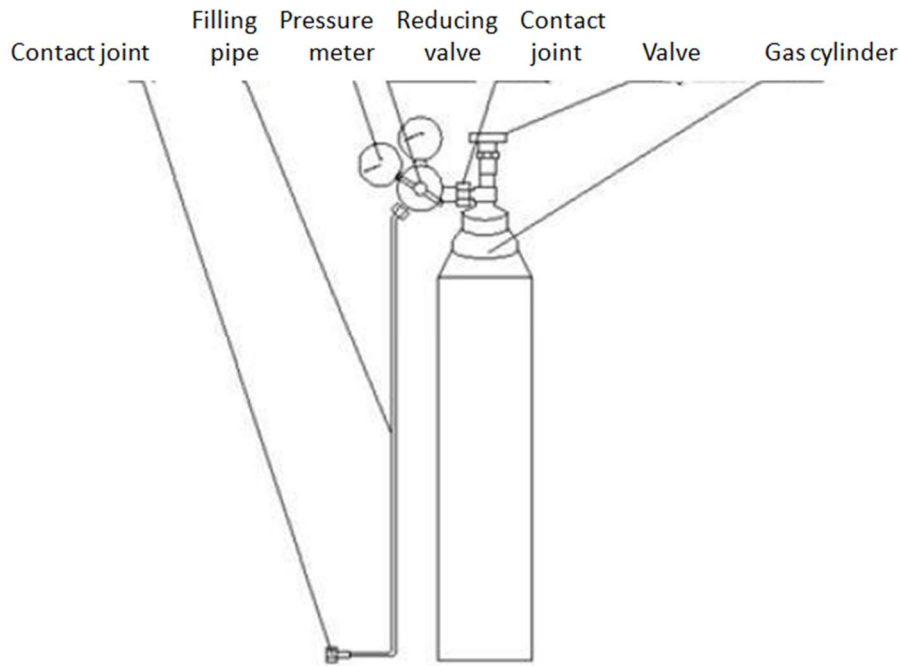

Figure 6 Schematic diagram of filling device
- b) Unscrew the protection cap of the gas cylinder, connect the filling device end with reducing valve to the contact joint of the cylinder, See figure 6